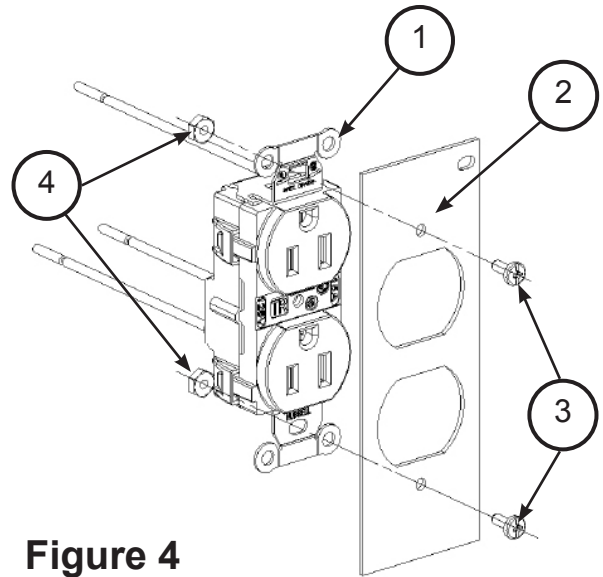

Figure 4
2. Catalog No. FB10MPDUP (see Fig. 4).